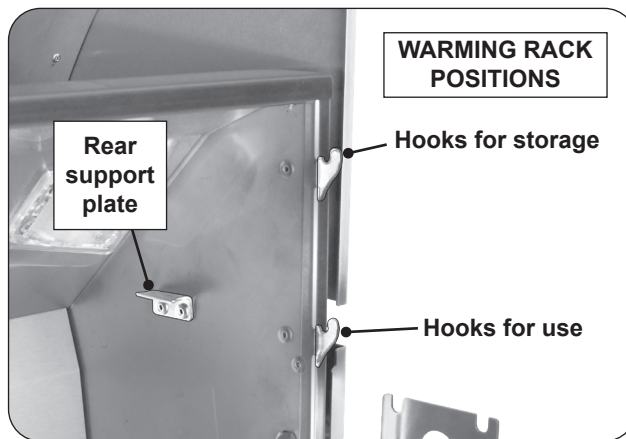
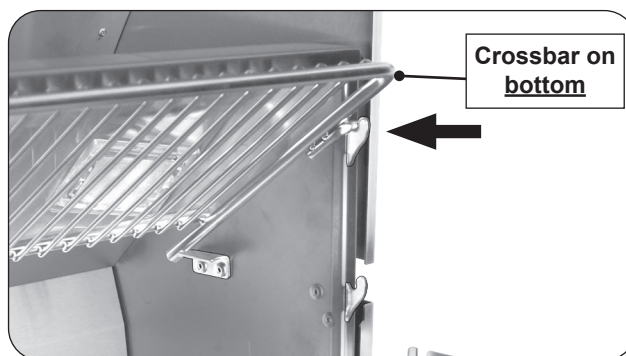

Fig. 27-1 Warming rack hooks
Fig. 27-3 Place warming rack in storage position
1. Locate the warming rack hooks and rear supports found on the upper portion of the grill oven (see Fig. 27-1).
Use the top hooks for storage (see Fig. 27-1 and Fig. 27-3).